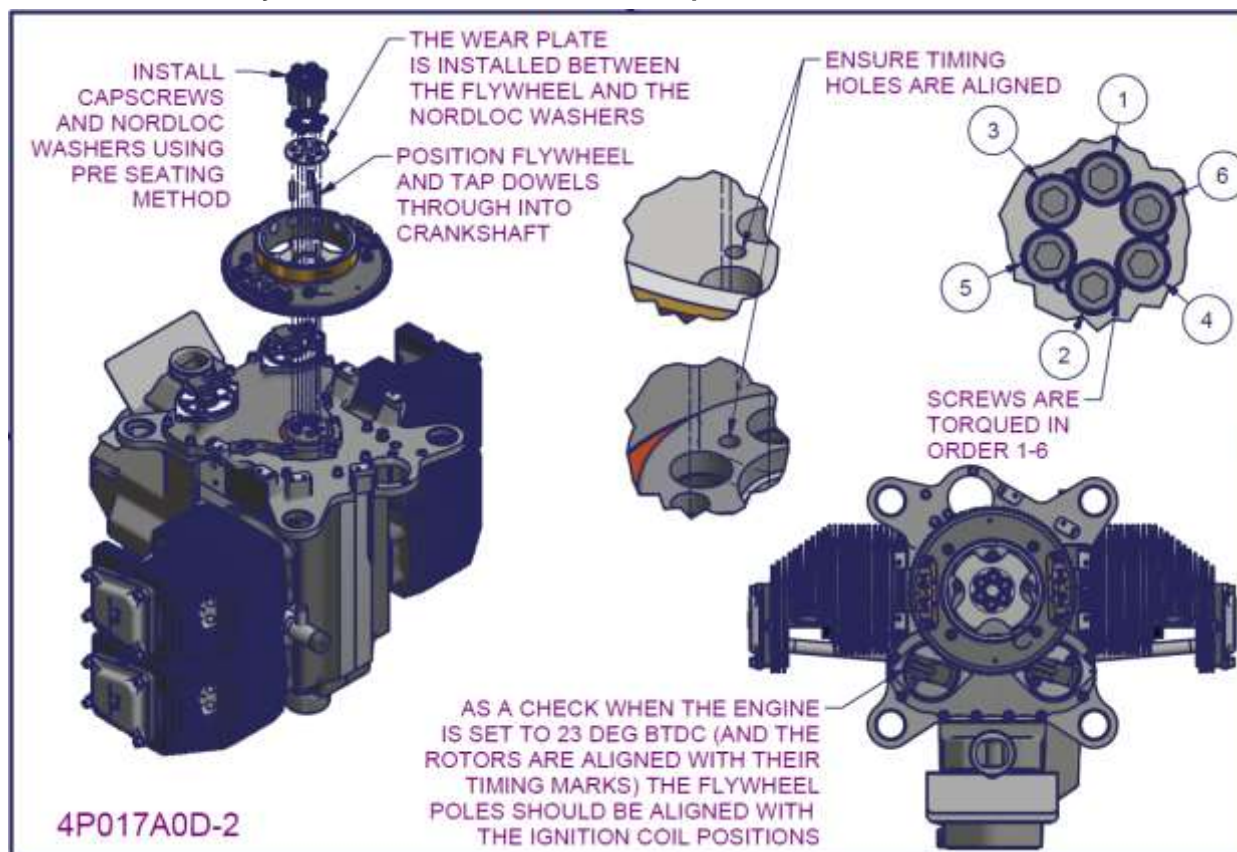

Figure 153 – 2200/3300 flywheel and alternator installation 1
- Tighten each screw to 15ft.lb using the diagonal tightening pattern shown in Figure 153.
- Now tighten each screw to the torque setting prescribed in section 0 using the same diagonal tightening pattern shown in Figure 153.
- Repeat the previous three steps installing the other five screws ONE AT A TIME using the diagonal pattern order shown in Figure 153.
Install capscrews with 6 plain washers to **15ft.lb** and then the **Prescribed Torque** (section 0) progressively using diagonal pattern shown in Figure 153